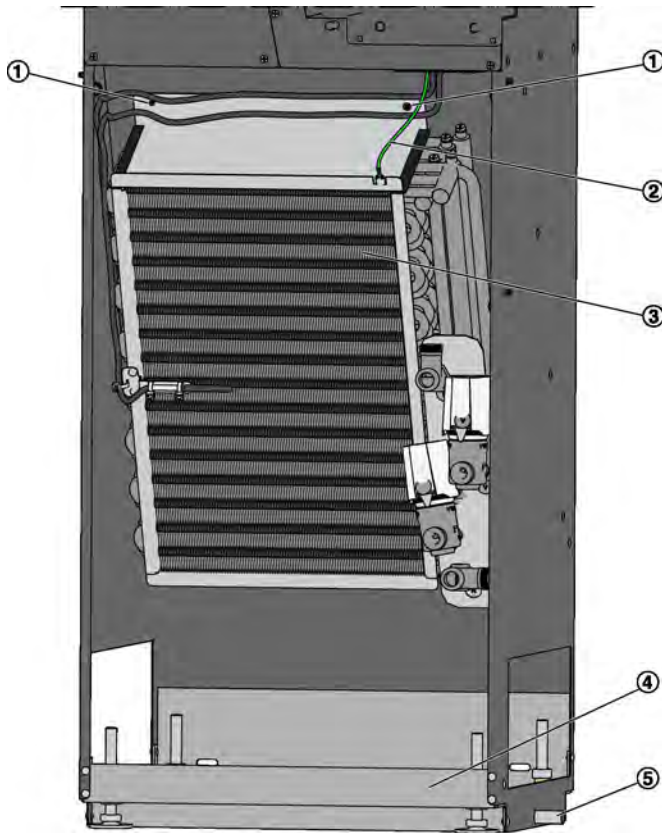

Fig. 26: Heat exchanger (SCHOOLAIR-V shown)
Remove the protective earth conductor (Fig. 26/2) from the heat exchanger.
Loosen the two Phillips screws (Fig. 26/1); you can then lift the heat exchanger (Fig. 26/3) out of the unit.
- Clean the condensate drip tray (Fig. 26/4) with a commercially available cleaner or disinfectant.
- Check that the condensate drain (Fig. 26/5) (optional) is not blocked.